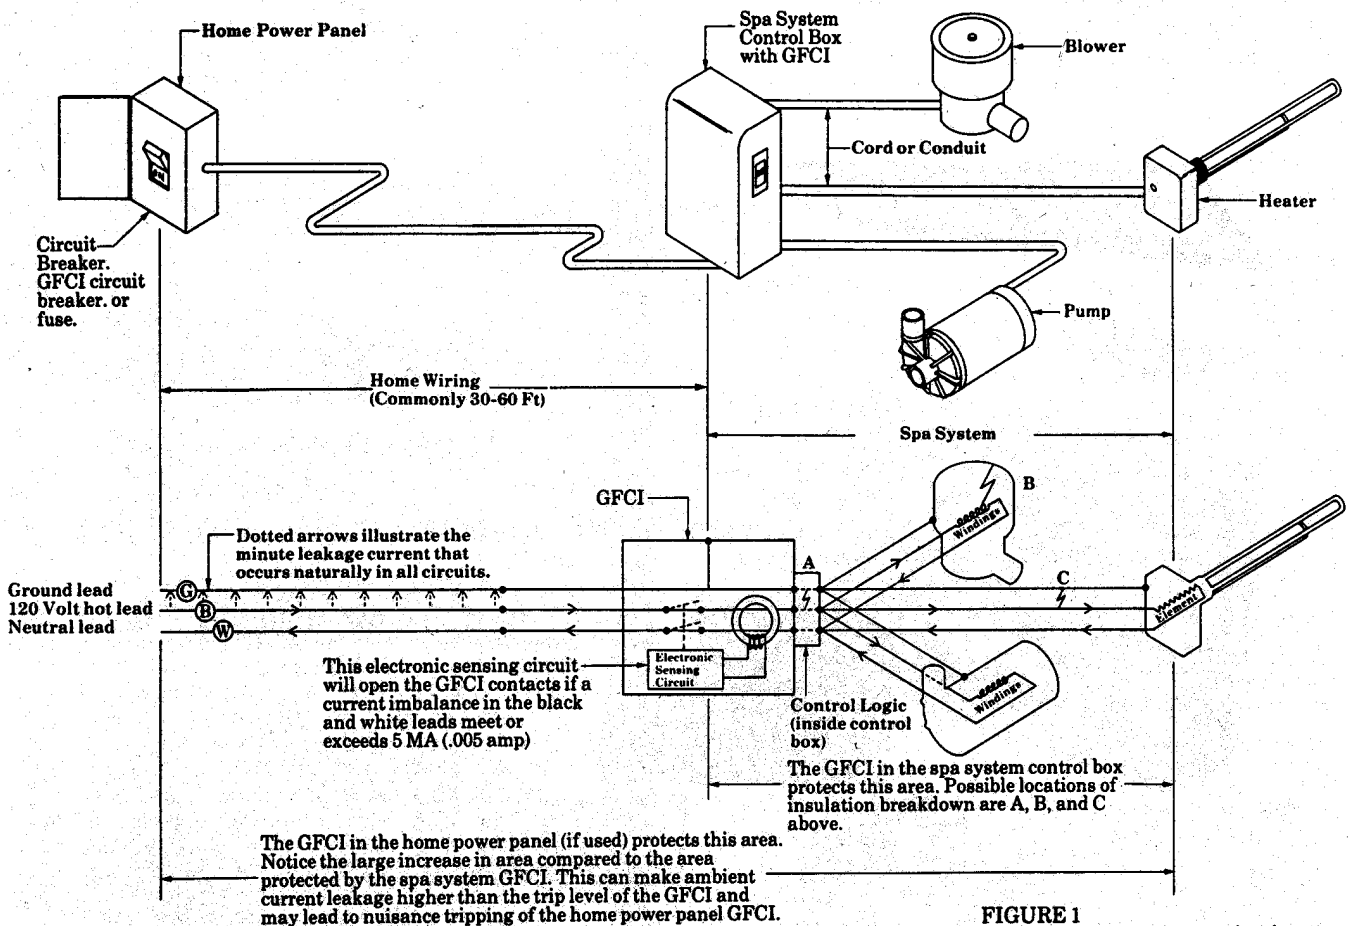

FIGURE 1
1. **Actual breakdown of insulation between conductors and ground.** This would mean that a ground fault in the system has been detected and stopped. A ground fault is leakage of current to ground and is illustrated in Figure 1. This is the proper operation of the GFCI. A ground fault condition is potentially dangerous and is what a GFCI is designed to protect against.